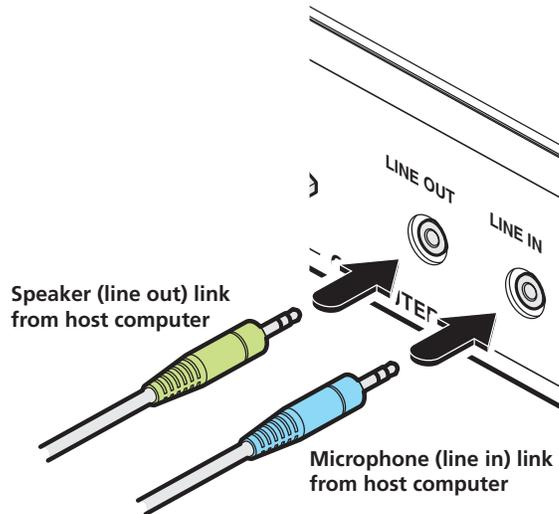

Figure 3-4. Connect the speaker and microphone cables to audio sockets.
- 1 Connect an audio link cable between the LINE OUT socket on the local transmitter unit rear panel and the speaker output (line out) socket of the host computer. See Figure 3-4.